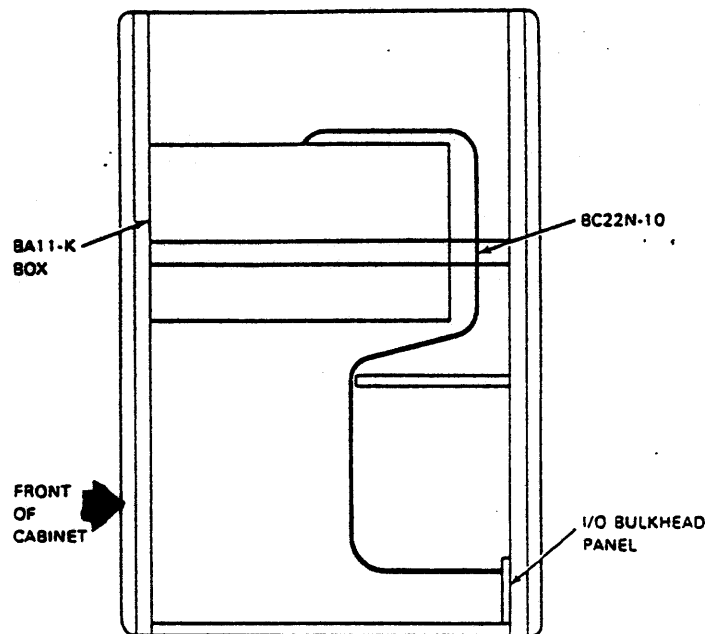

Figure 2-10 BC22N-10 Cable between M8398 and I/O Bulkhead
4. After two successful passes, remove the H3028 loopback connector from the M8398 module and connect the BC22N-10 cable between M8398 module J1 and the 2 X 4 I/O panel insert (Refer to Figure 2-10).
2. Connect M8398 module to the BC22N-10 cable I/O panel (Figure 2-10). _/_/_
6. Disconnect the H3027 from the T1 cable and connect the T1 cable to the H3014 T1 Connector. Then place six (6) 29-24929-00 staggered turnaround connectors on the H3014 Distribution Panel and run EVDAE. EVDAE runs successfully under all conditions (Section 2.6). __/__/__